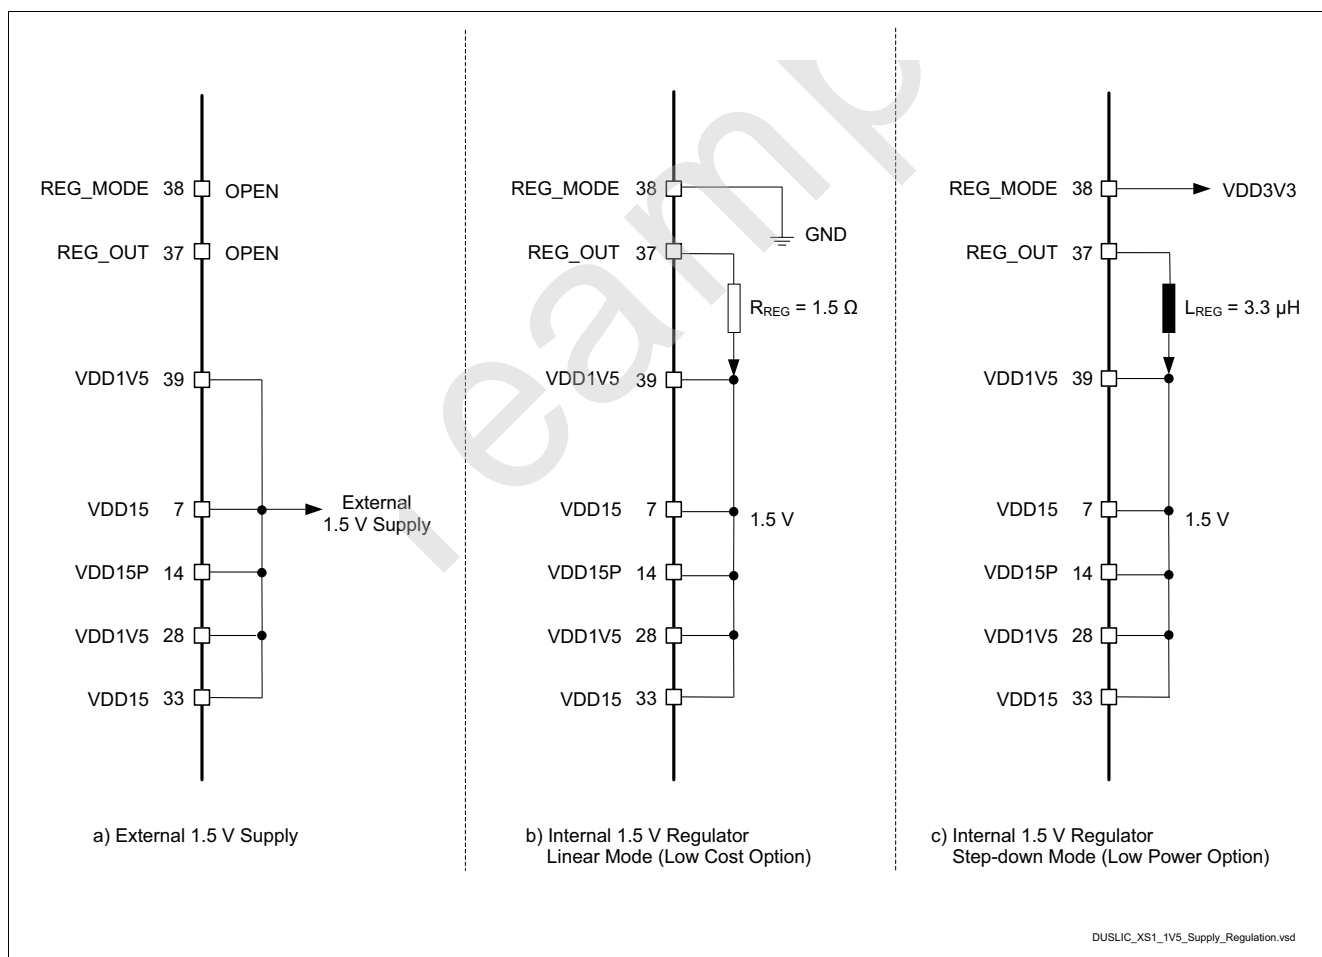

Figure 3 1.5 V Supply Regulation
The DXS Series device is either operated using an external 1.5 V supply, or by taking advantage of its integrated 1.5 V regulator in systems where a 1.5 V supply is not available. When an external 1.5 V supply is used, the REG\_MODE pin must be left open, allowing the device to be supplied from this external 1.5 V source (see Figure 3 a\)).
- For lowest cost applications, select linear mode by connecting the REG\_MODE pin to GND. Add a 1.5 Ω resistor between REG\_OUT and VDD15 (see Figure 3 b\)). The regulator operates as an LDO.
- When the lowest possible power dissipation is desired, connect the REG\_MODE pin to VDD3V3 and place a coil of approx. 3.3 μH between REG\_OUT and VDD15 (see Figure 3 c\)). The regulator operates in step-down mode with an efficiency of approx. 80%.